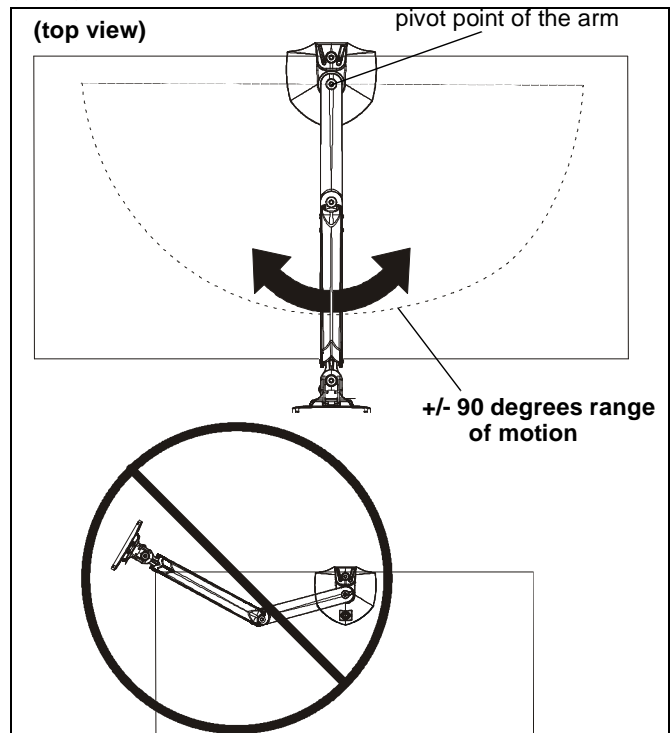

Figure 25
1. Adjust arm angle as desired up to 90 degrees in either direction. (See Figure 25)